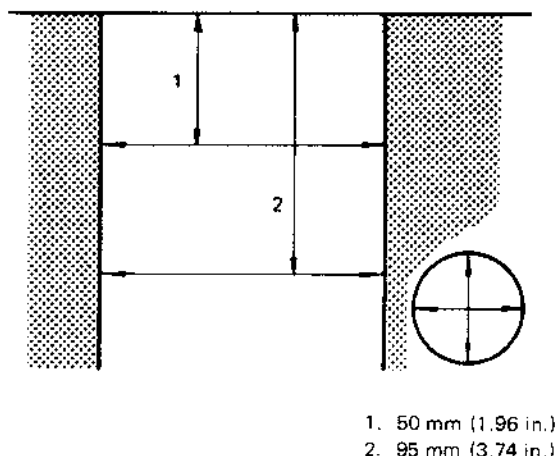

Fig. 3-5-28 Positions to be measured
- Using a cylinder gauge, measure cylinder bore in thrust and axial directions at two positions as shown in Fig. 3-5-28.
Cylinder bore diameters measured in thrust direction at two positions as shown in Fig. 3-5-28 should be used for calculation of piston clearance.